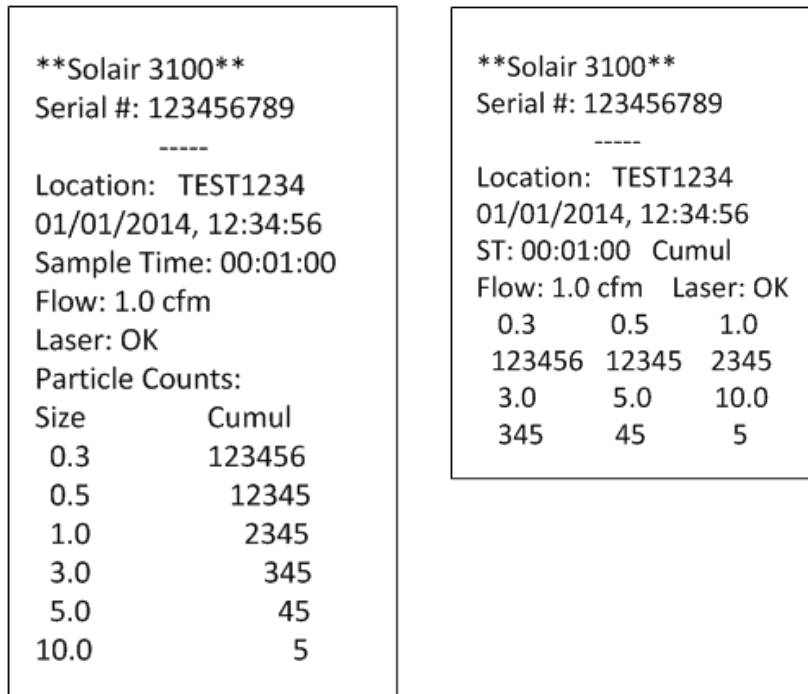

Figure 6-56 Portrait and Landscape Print Examples
- **PORTR** - Prints the report in portrait mode. See Figure 6-56.
- **LANDSC** - Prints the report in landscape mode See Figure 6-56.